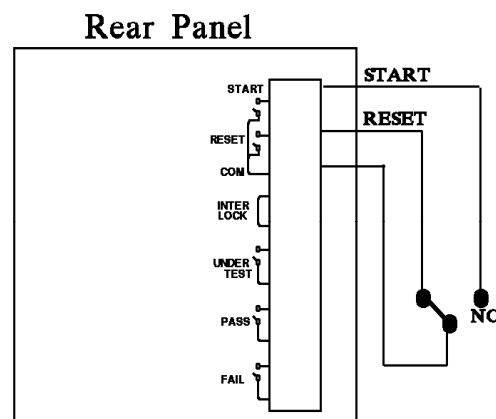

Figure 4-2
2. If it is connected as *Figure 4-2* shows, the system routine is in STOP state as the NC is connected to STOP and NO is connected to START.